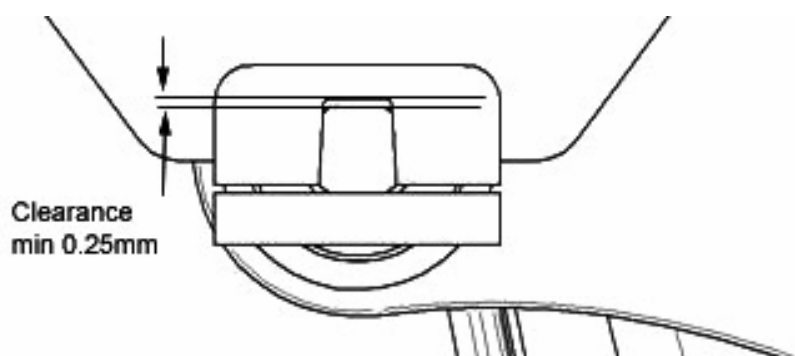

Figure 27.1: Measurement of Clearance at Top of Tapered Slot
22.9 Measure the clearance between the top of the pivot bush location spindle and the underside of the bogie bracket tapered slot (see Figure 27.1). If less than 0.25mm, remove the axlebox and machine 1.0mm from the top face of the pivot spindle and reassemble.
27.2 Measure the clearance between the top of the pivot bush location spindle and underside of the bogie bracket tapered slot (see Figure 27.1). This shall not be less than 0.25mm.